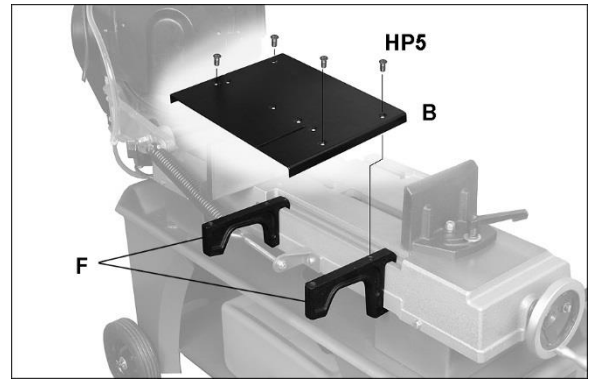

Figure 6-12: installing infeed table (**712D only**)
9. The table plate (B, Figure 6-12) may be used as cutting table in vertical mode (models 712 and 712D), or may be used as infeed table in horizontal mode (**712D only**). To use as infeed table for model 712D, place supports (F) on channel of saw bed as shown, and install plate with flat head screws (HP5). To use plate as cutting table in vertical mode, refer to sect. 7.2.